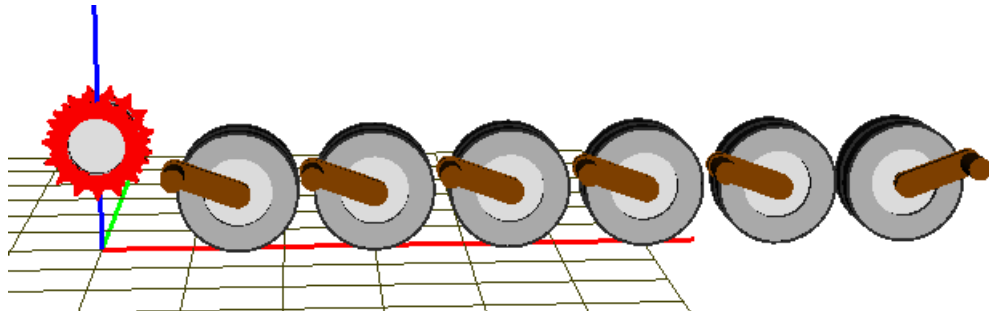

Fig. 15 Adding sprocket
- 4) Add the sprocket to the model by the **Generate** button, Fig. 15.